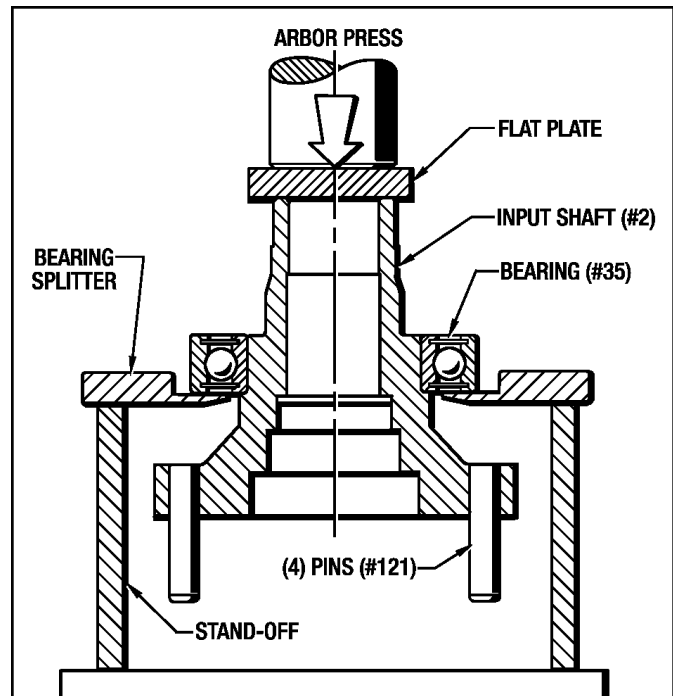

Figure 7.4 - Removing Bearing (#35)
(See Figure 7.4)
- Remove the Bearing (#35) from the Input Shaft (#2) with a Bearing Splitter and an arbor press as shown in Figure 7.4.